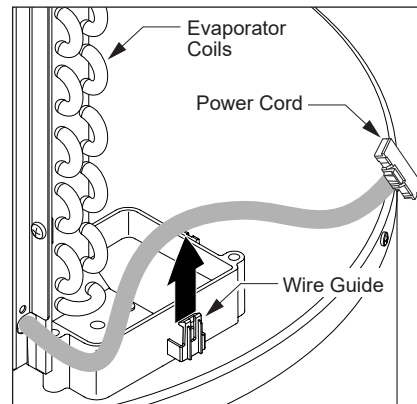

Figure 81 - Removing Fan Motor Power Cord
Step 5. Note the location of cable ties securing the power cord for re-installation later in **Step 19**. Remove cable ties and gently pull power cord up and away from wire guide (see Figure 81).